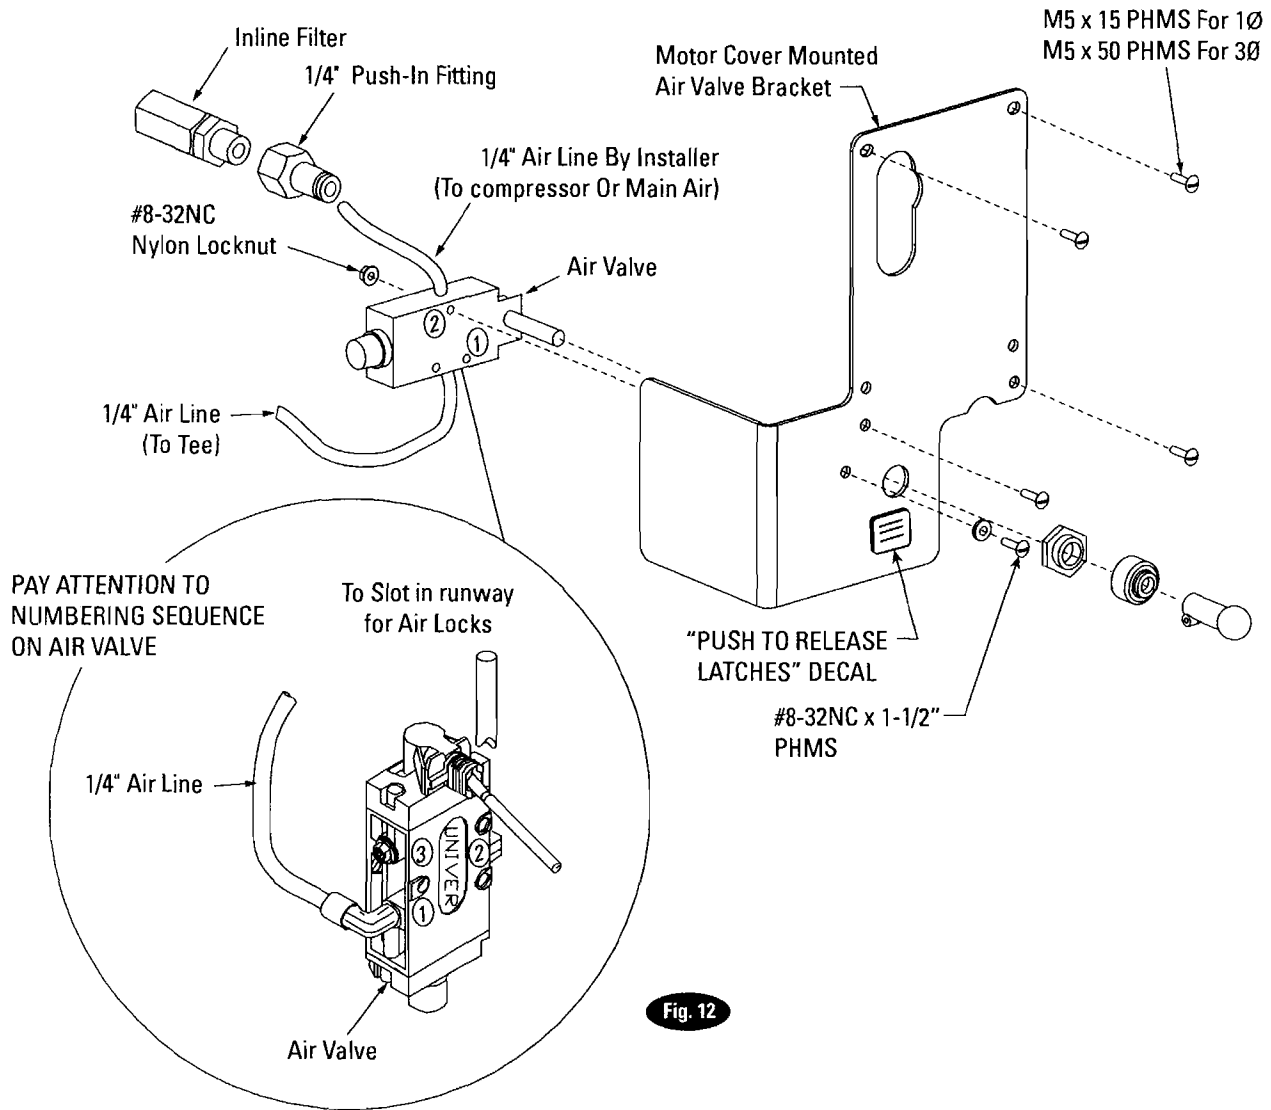
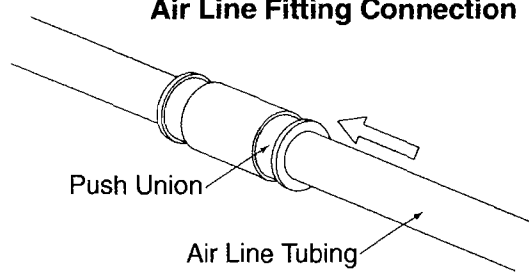

Fig. 12
Fig. 13
6. Install "PUSH TO RELEASE LATCHES" decal on bracket under air valve lever, Fig. 12.
8. Connect air line tubing to latch release air valve and to air line attached to vertical hose using push union, in lift containment inlet. Place decal on bracket, Figs. 12 & 13.
1. Attach brass filter and swivel elbows to air latch, Fig. 12.
2. Install latch release air valve to bracket, Fig. 12.
4. Connect shop air supply with factory supplied in-line filter to latch release air valve 1/4" push-in 1/4" NPT fitting, Fig. 12 & Fig. 13.